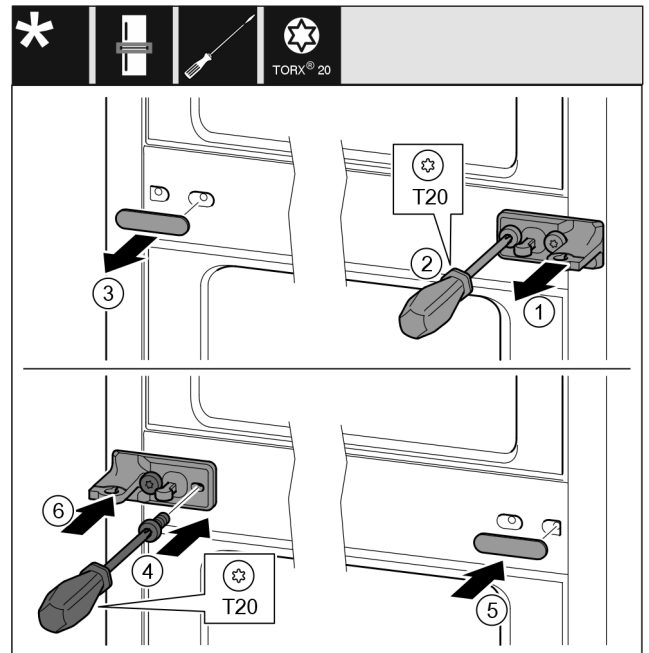

Fig. 11
- ▶ Take off the washer. Fig. 11 (1)
- ▶ Remove the screws with a T20 screwdriver. Fig. 11 (2)
- ▶ Take off the cover carefully. Fig. 11 (3)
- ▶ Screw the bearing bracket and the film rotated 180° firmly onto the other side. Fig. 11 (4)
- ▶ Attach the cover rotated 180° onto the other side. Fig. 11 (5)
- ▶ Push the washer on from the front. Fig. 11 (6)